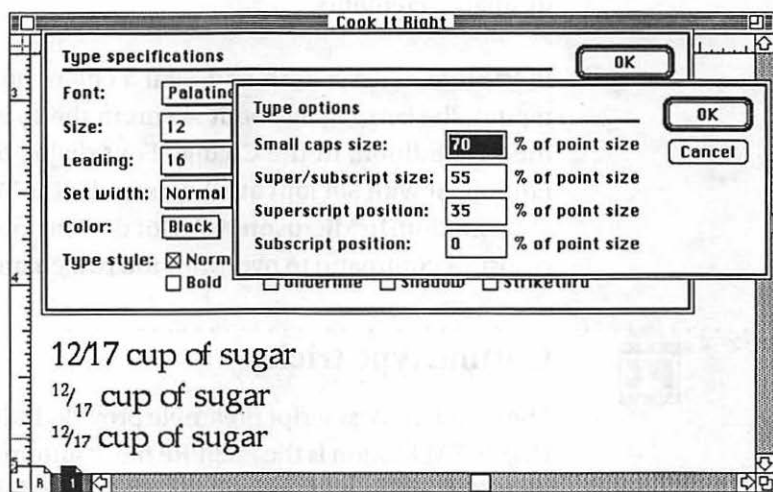

FIGURE 1-12 Use PageMaker's Type Options dialog box to adjust the position of numerator and denominator and make a good-looking slash fraction.
1. Type the fraction as standard text, making sure to use the real fraction bar rather than the standard slash (top fraction, Figure 1-12). On the Mac, press Shift + Option + 1 to enter the fraction bar. On the PC, use the fraction bar from the PostScript Symbol font (Alt + 0164 on the numeric keypad), or just / (slash) if you're using an Adobe Expert Set, or the nonbreaking slash (Ctrl + Shift + /) if all else fails.
4. The fraction as it now stands falls well below the baseline (as in the center fraction, Figure 1-12); a better-looking fraction sits on
The fraction should now sit comfortably on the baseline, as illustrated by the bottom fraction in Figure 1-12.